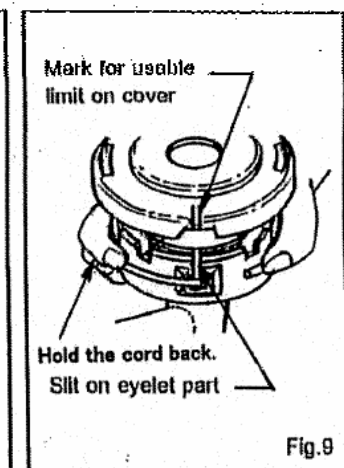

Fig.9
10. Fit the cover onto the housing by aligning the latch on the housing to the window on the cover. Make sure the latches have hooked onto the cover by inspecting through the window. (fig. 9 & 10)